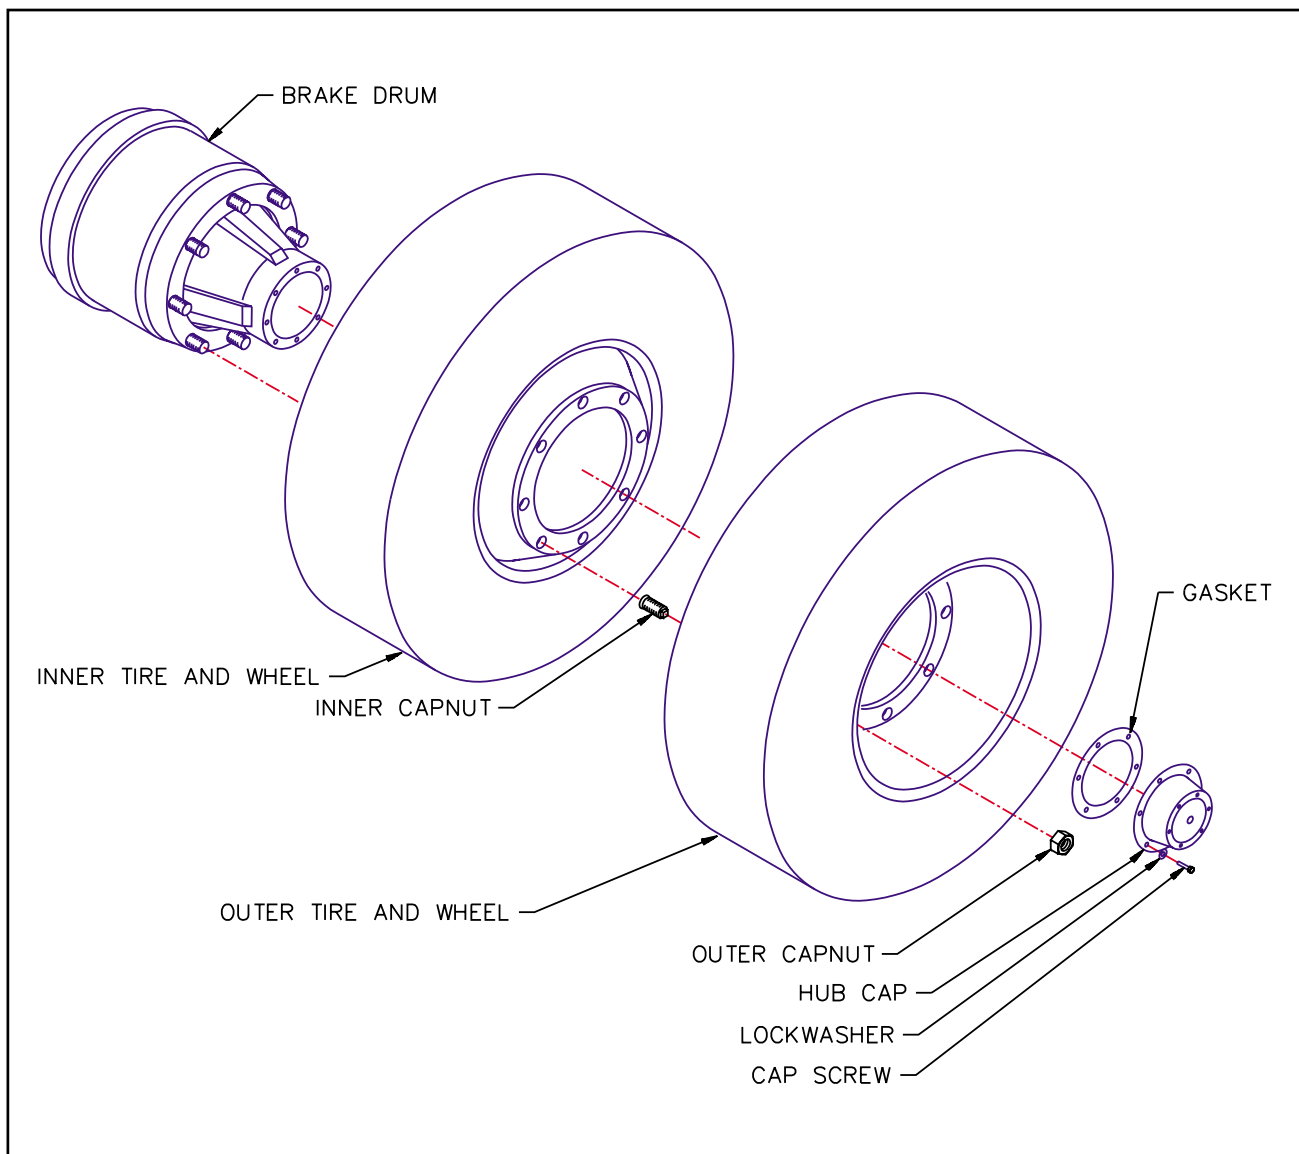

Figure 4-13 Mounting Tires and Wheels
a. Make sure that all mounting surfaces are clean and free of rust, dirt or paint. A wire brush may be used to clean these surfaces (See Figure 4-13).